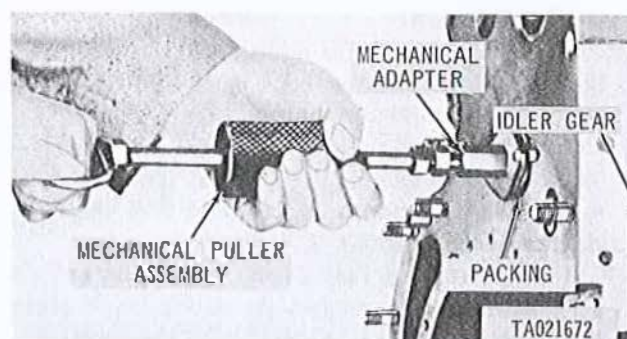

Figure 3-138. Removing starter and/or generator idler gearshaft.
c. Install mechanical adapter Part No. 8375091 (fig. 3-138) into tapped hole provided in end of starter idler gearshaft and install mechanical puller Part No. 8708712 into adapter. Slide hammer on puller against handle to pull starter idler gearshaft from crankcase assembly. Support starter idler gear with wooden block while removing gearshaft and then